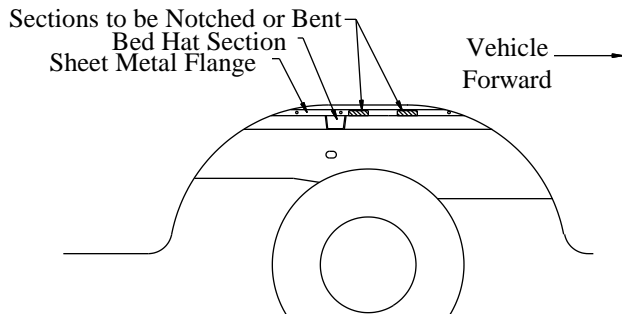

Figure 2
2. From the passenger's side wheel well, notch or bend the sheet metal flange as shown in Figure 2. (**Optional:** The vehicle bed can be lifted to insert the hitch cross members by loosening the bolts that attach the bed to the frame).